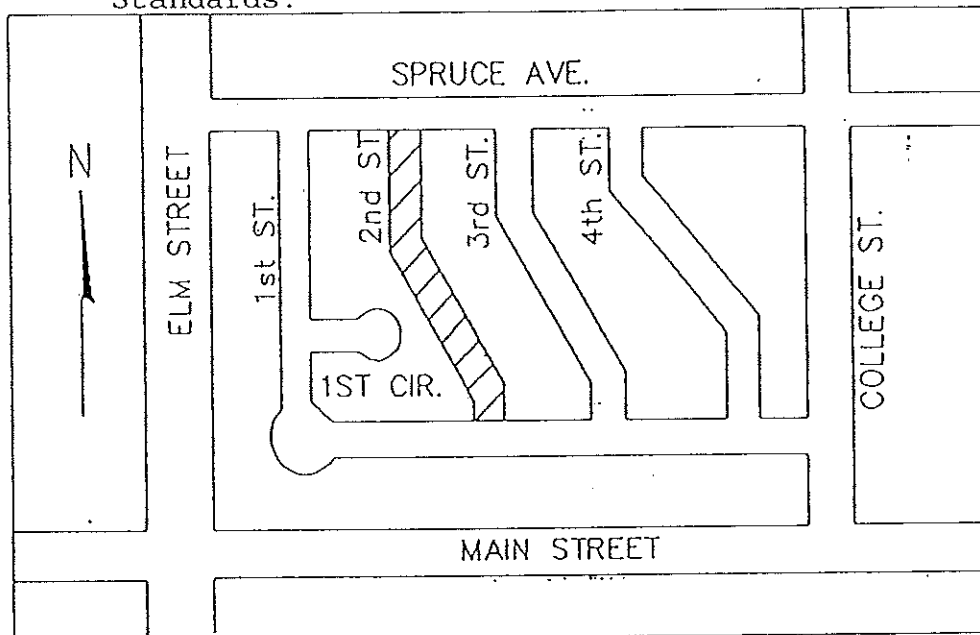

Figure 3.1
3.5.2 The key map is to appear on every sheet showing proposed improvements. The roadway or area that the design pertains to will be shaded as shown on the example Key Map on Figure 3.1 of these Standards.